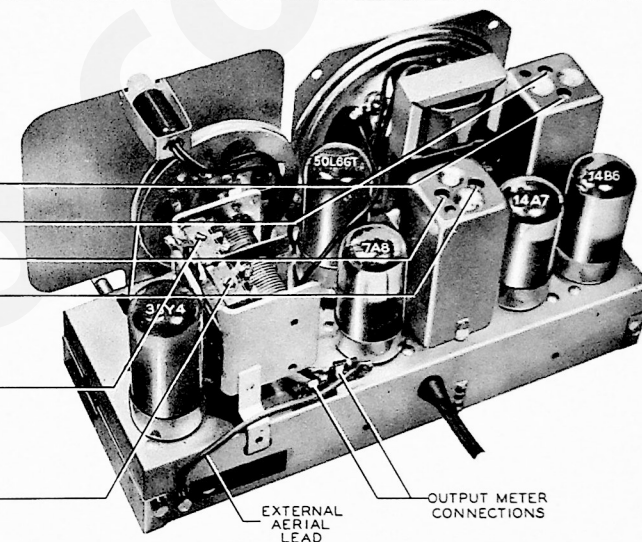

Figure 6. Chassis View, Showing Trimmer Locations
The high-impedance loop aerial normally provides adequate signal pick-up. An external aerial may be connected, if desired, by detaching the aerial lead (shown in figure 6) from the chassis, and connecting the lead to an external aerial lead-in. Do not use a ground.
1. Carefully inspect both top and bottom of the chassis. Make sure that all tubes are secure in their proper sockets (see figure 6), and look for bad connections, burnt resistors, or other obvious sources of trouble.
**OUTPUT METER**—Connect to left (output) lug and center (chassis) lug of terminal panel, shown in figure 6.